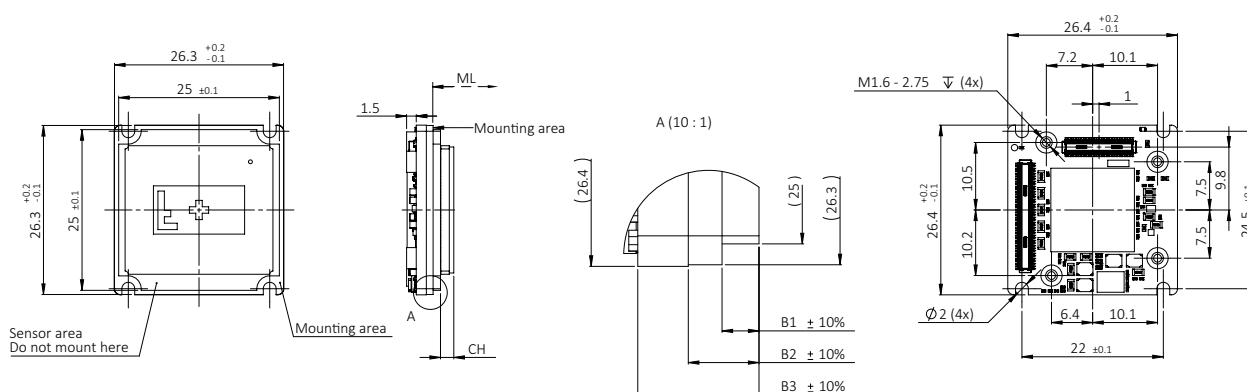

Figure 79: Bare Board (Alvium Flex) dimensions
Dimensions that are common between different models are shown in Figure 79. Model specific dimensions are listed in Table 99. **Mechanical length (ML)** defines the mechanical distance from the mounting area to the lens mount front flange, without optical filter. **Components height (CH)** relates to the electronic components with maximum height, in some cases the sensor.